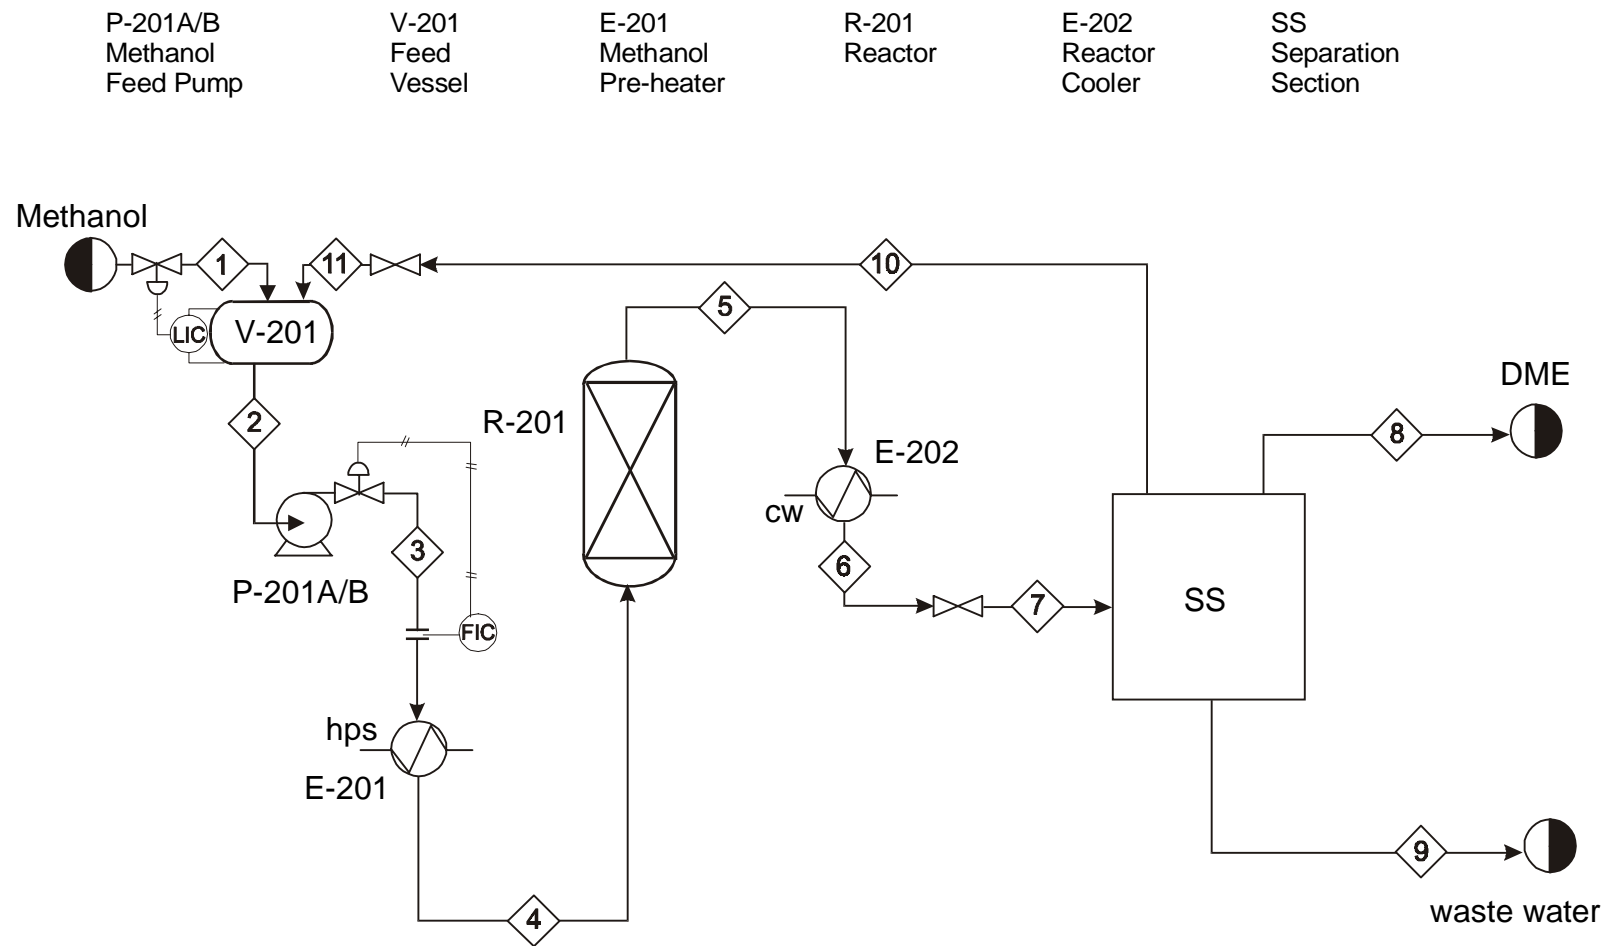
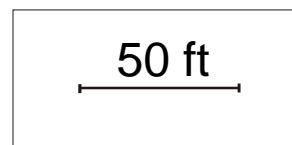

Figure 1:
Figure 2: Plot Plan of DME/DEE Facility
The PFD for the feed and reaction sections is given in Figure 1. Feed to the process consisting of liquid methanol, is mixed with recycle liquid methanol.
P-1401 A/B: Pump(s) from tank storage to V-201. (not shown on PFD – will be near tanks TK-1401 and TK-1402 – see the plot plan in Figure 2)
1. **Optimization of the Feed Section and Wastewater Pump.** (ChE 310) The process flow diagram is given in Figure 1. A plot plan is given in Figure 2. As you can see, the DME facility is part of a larger facility that also produces DEE. You are to size the new pump(s), P-1401 A/B (in Unit 1400 – see plot plan, pump location not actually shown). You are to determine the optimum pipe size for the piping from tank storage to V-201. The objective function for the optimization is the Equivalent Annual Operating Cost (EAOC) of the piping system including the pump (\$/y). The *EAOC* is defined as: